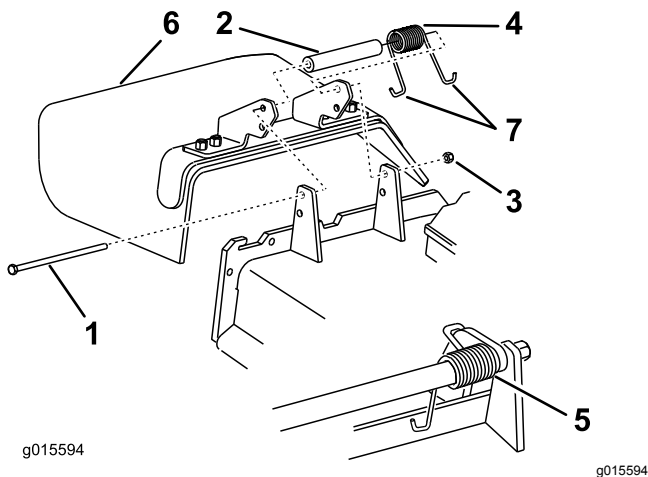

Figure 55
3. Remove the locknut, bolt, spring and spacer securing the deflector to the pivot brackets (Figure 55).
7. Place one J-hook end of the spring around the grass deflector (Figure 55).
5. Place one J-hook end of the spring behind the deck edge (Figure 55).
Note: Ensure that one J-hook end of the spring is installed behind the deck edge before installing the bolt as shown in Figure 55.